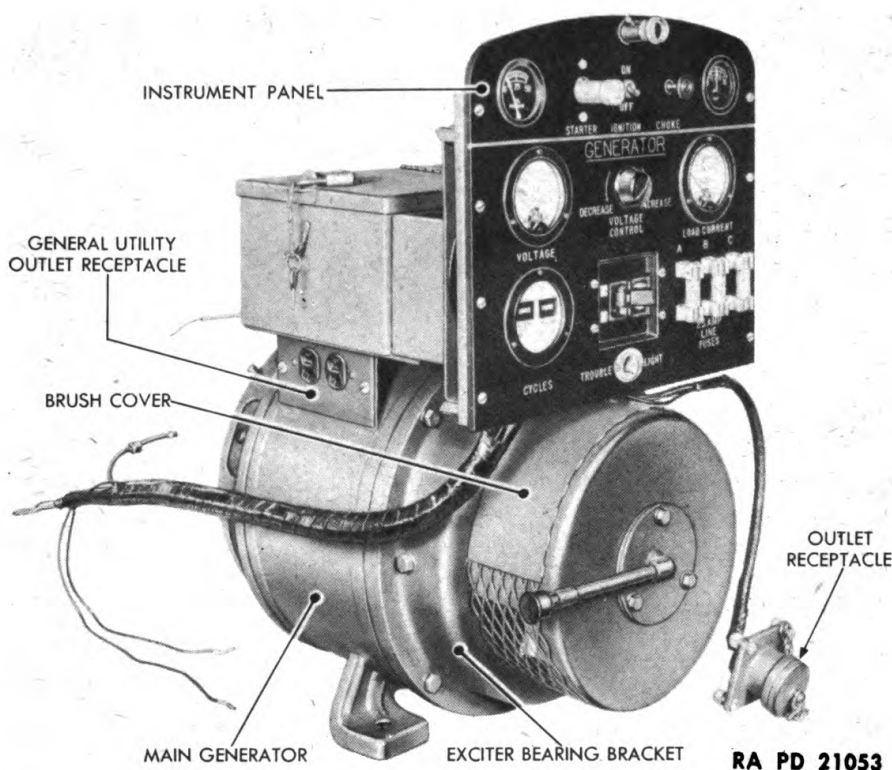

Figure 33 — Main Generator and Instrument Panel — Left Rear View
ary point bracket to secure proper alinement, and then adjust the gap (fig. 33) and tighten the lock nut.
64. MAIN GENERATOR AND EXCITER (fig. 33).